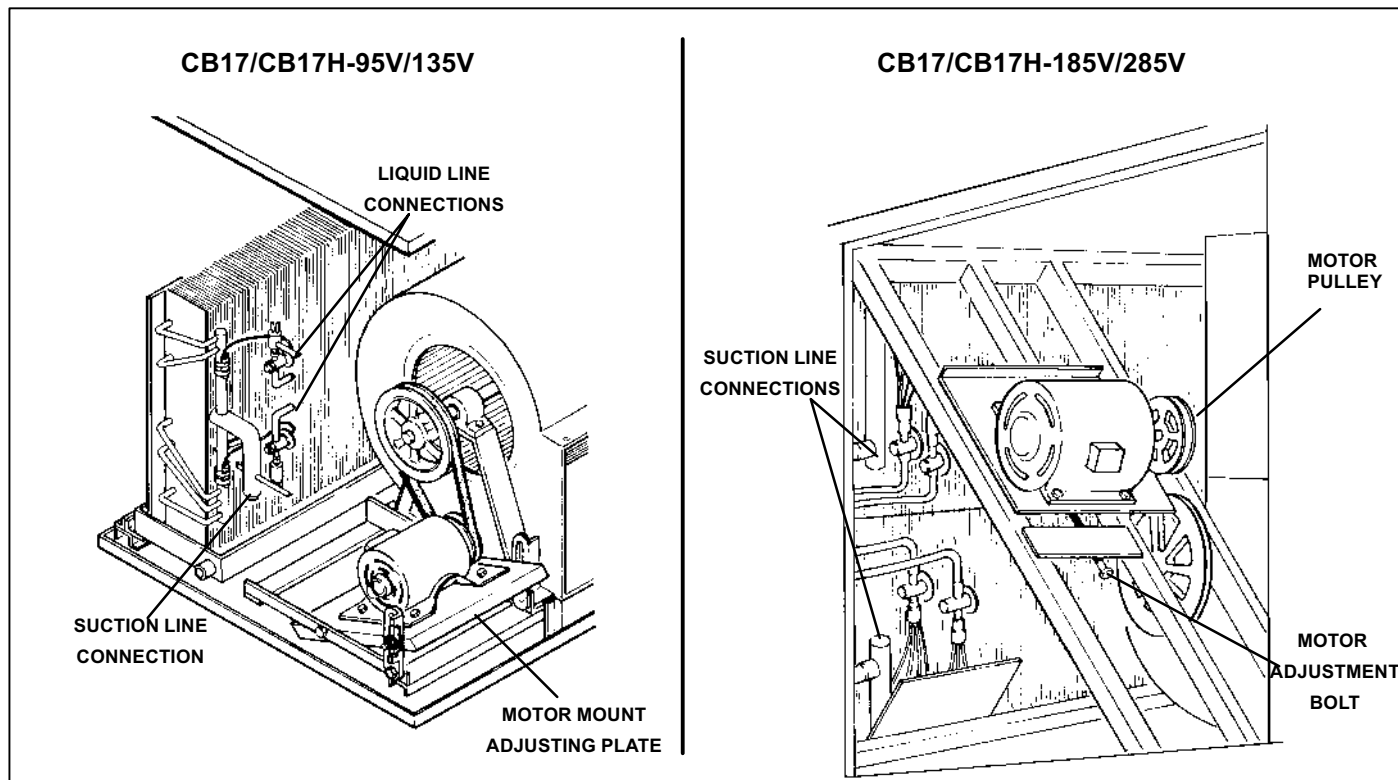

FIGURE 1
(FIGURE 1)
- 5 - Adjust the unit's air volume at the blower motor pulley. Loosen the Allen screw. Turn the adjustable sheave clockwise to increase the air volume or counterclockwise to decrease the air volume. See figure 1.
Refrigerant lines or stubbed for sweat connections and are located inside the unit cabinet. See figure 1.